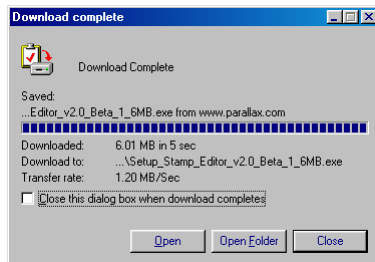

Figure 1-9
- √ When the download is complete, leave the window shown in Figure 1-9 open while you skip to the next section - Activity #2: Installing the Software.